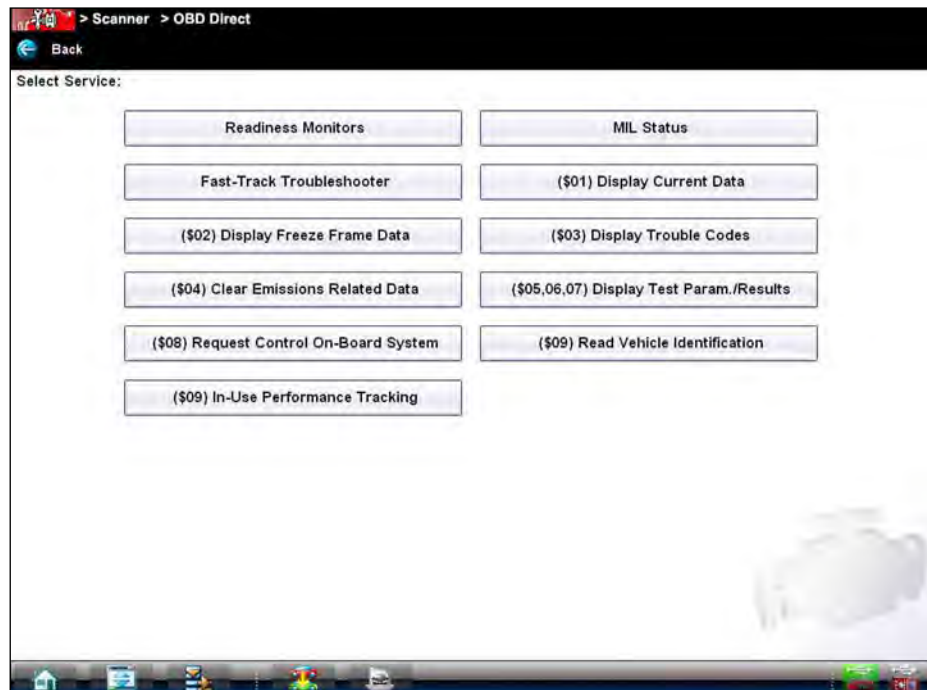

Figure 5-6 Sample Start Communication menu
4. Select **Continue** and a menu of available tests displays(Figure 5-6).